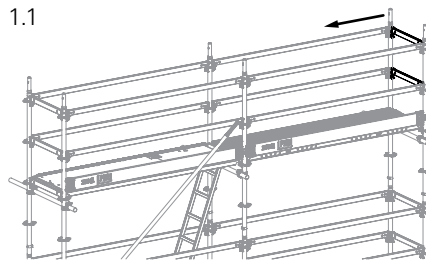

Fig. A4.01a
- Ledger UH 75 opposite the hatch (Fig. A4.01a)